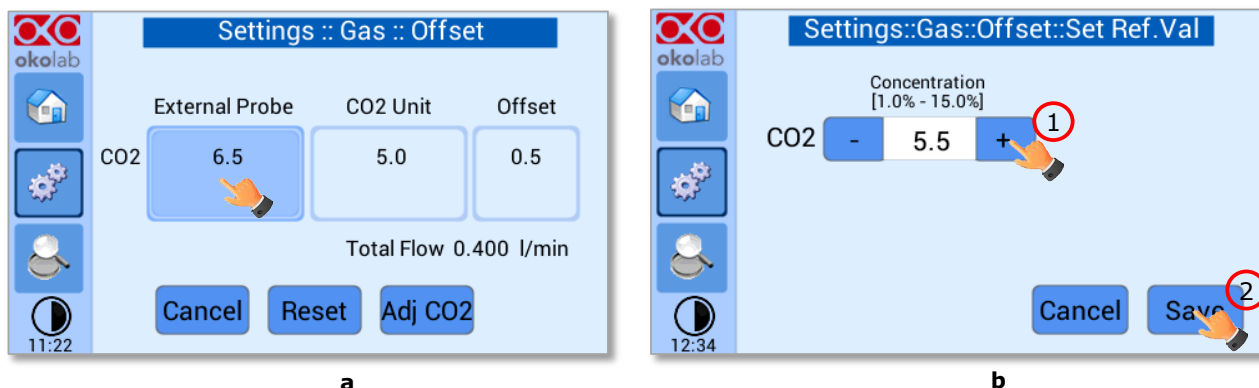

Figure 25. Manual Calibration (a – b)
5. The Figure 25 b appears. Press on “+/-” to input the CO₂ level read by the external Gas meter (i.e. 5.5%), then press “Save”.